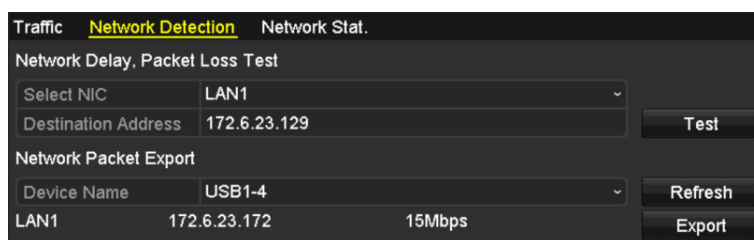

Figure 9-22 Export Network Packet
Step 3 Select the backup device from the dropdown list of Device Name, as shown in Figure 9-22.